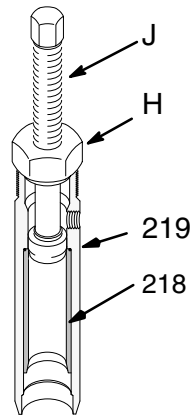

Fig. 28 0028
- Remove the sleeve (218) whenever you service the pump. Use special tool, Part No. 224–786 only. Screw the nut (H) into the cylinder (219). Screw down the rod (J) to push the sleeve out. See Fig. 28.